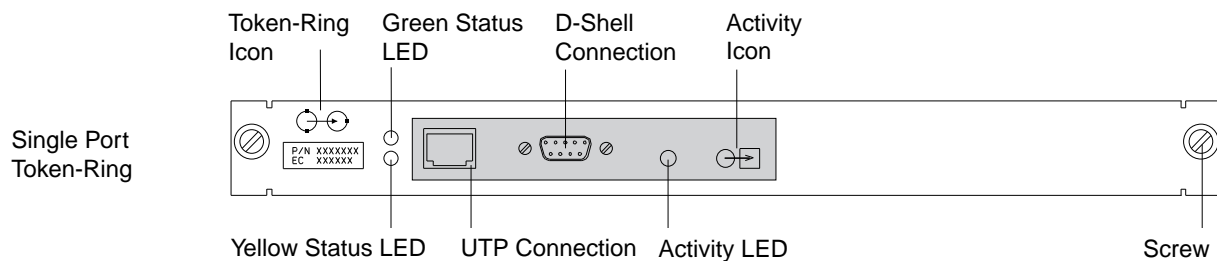

Figure 2-9. Single-Port Token-Ring Attachment Module
- b. ____ Connect cable **A** (PN 6339098) from the D-Shell connector of the token ring module (refer to Figure 2-9 on page 2-9) to the SPAU (8228).